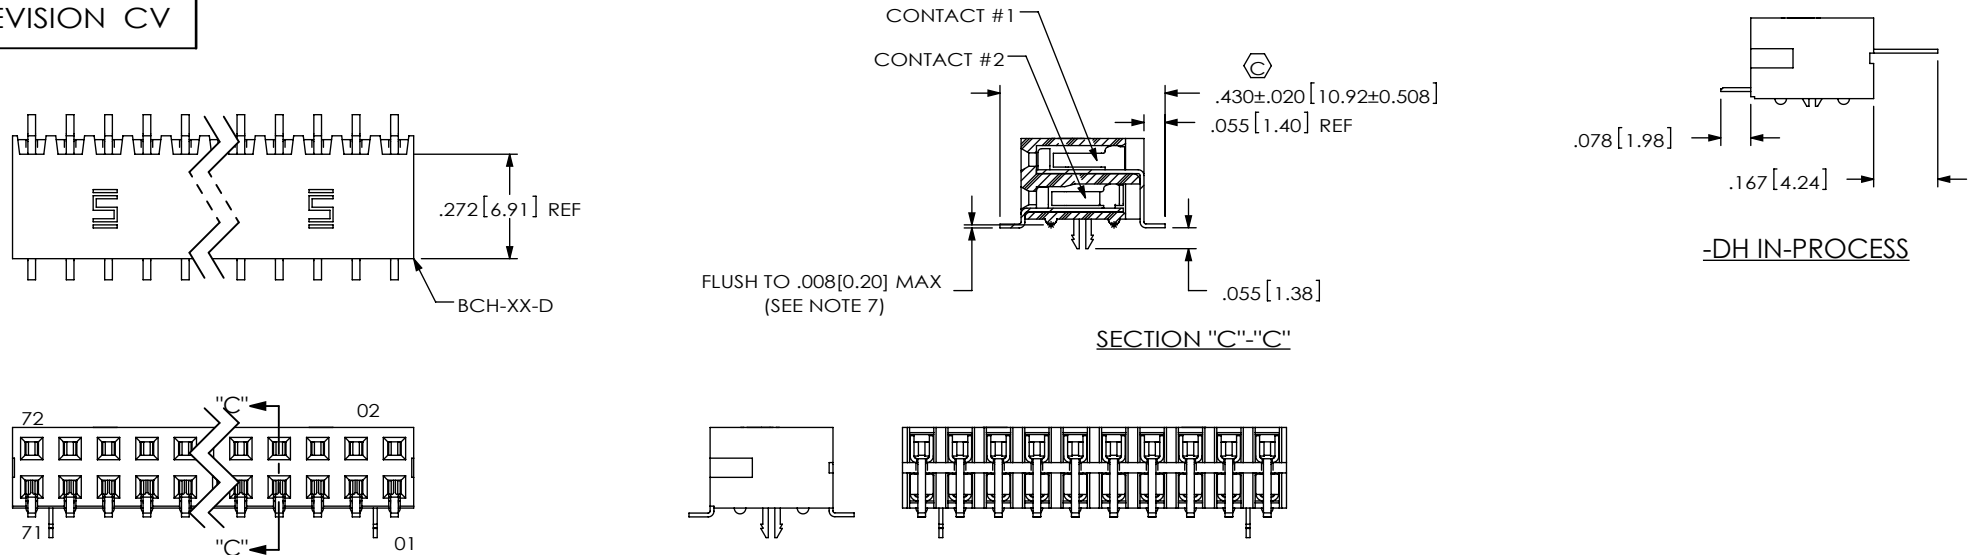

FIG 4
-DH: DOUBLE HORIZONTAL (SEE FIG 4, SHT 3)